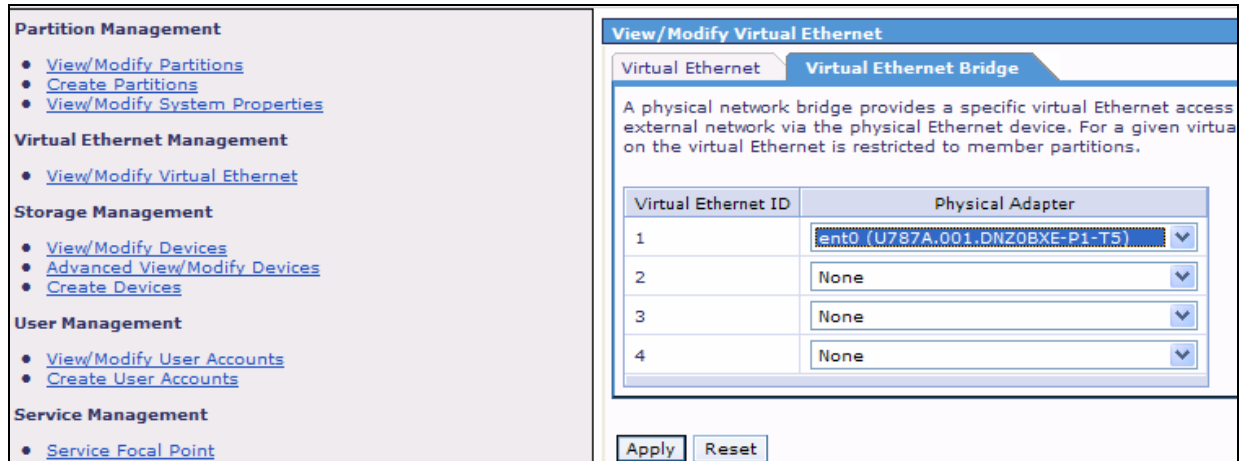

Figure 58. Selecting the ent0 physical adapter
1. On the left IVM navigation bar, click **View/Modify Virtual Ethernet**. Then, from the Virtual Ethernet Bridge tab, select the **ent0** physical adapter from the pull-down menu (see Figure 58). Then, click **Apply**.